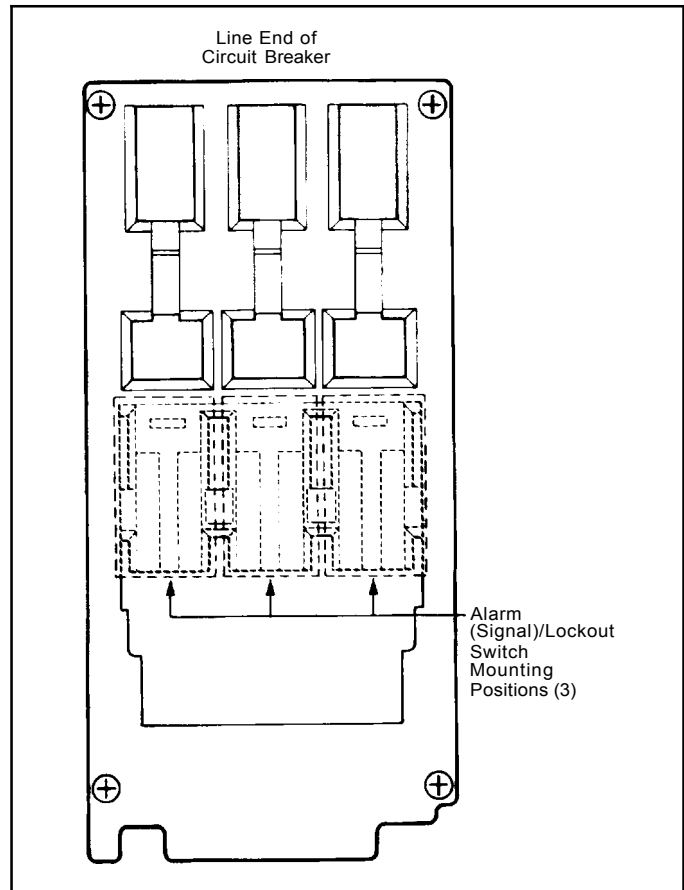

Fig. 2-2 Accessory Location Diagram.
- a. Select position for ASL switch on accessory mounting deck (see Fig. 2-2).